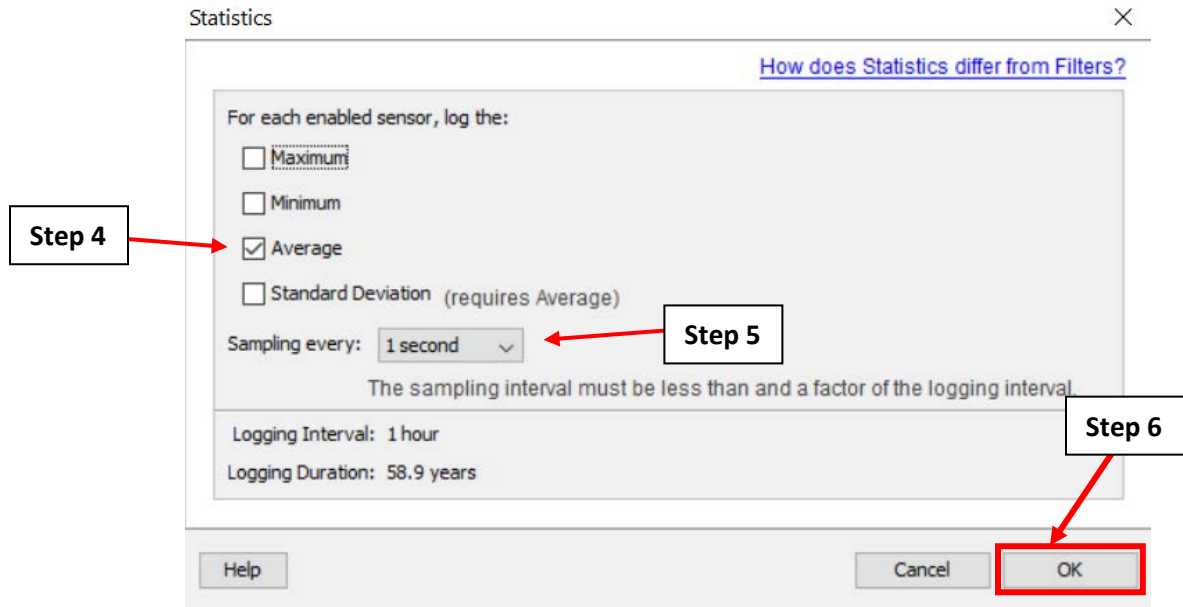

Figure A.9.7: Setting the sampling rate in the Statistics pop-up window.
4. Following Figure A.9.7, select the checkbox labeled “Average” and uncheck the other boxes.